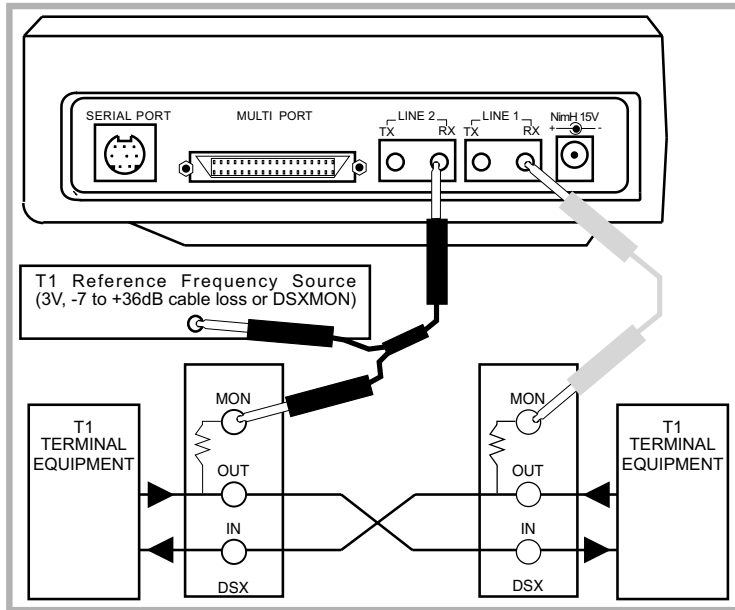

Figure 175 Frequency Synchronization Problems
4. Connect the reference T1 signal to the LINE 2 jack on the side of the SunSet T10. Refer to Figure 175.